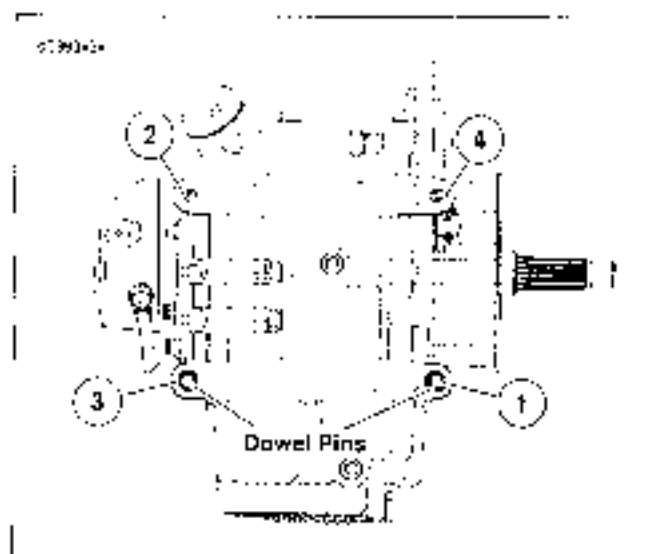

Figure 3-16. Transmission Housing to Crankcase Torque Sequence
4. See Figure 3-16. Tighten the four transmission mounting bolts in the sequence shown as follows.
12. Install MAP sensor connector (80) to MAP sensor.